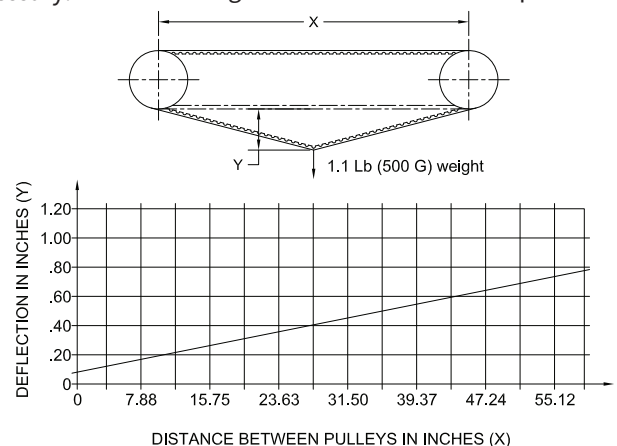

Figure 34: Drive Belt Tension Chart
- CHECK MAIN DRIVE BELT FOR TENSION.** Allow a maximum deflection per chart (Figure 34) on one leg of the belt. Apply weight to belt & check deflection. If the tension is too loose, loosen and adjust the idler pulley bracket to maintain the desired tension. Once the proper tension is set, re-tighten the idler pulley bracket.
- Check drive belt tension (Figure 34).